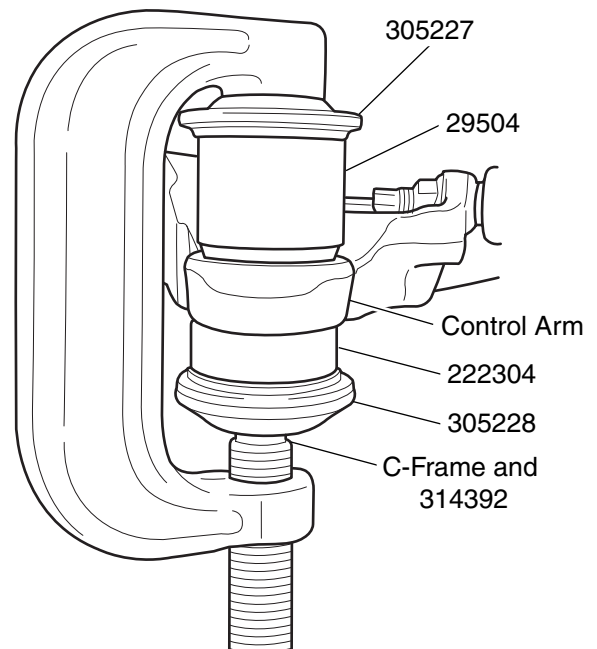

Figure 2. Ball Joint Installation
3. Position 29504 and 305227 (or 39976 alone) on the ball joint as shown in Figure 2.